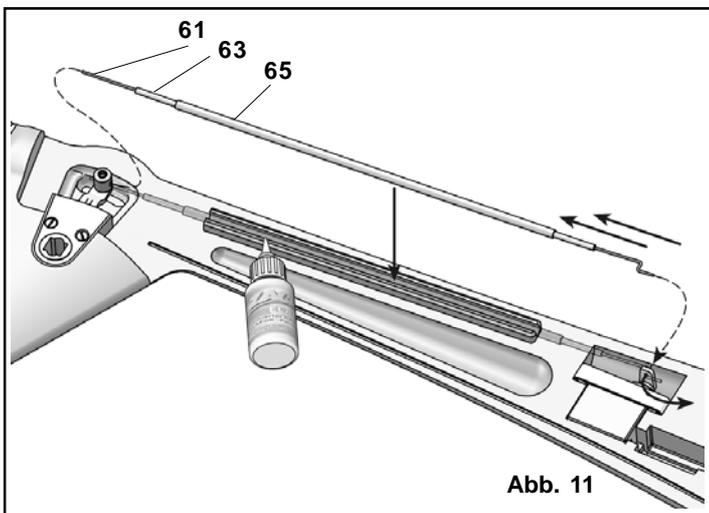
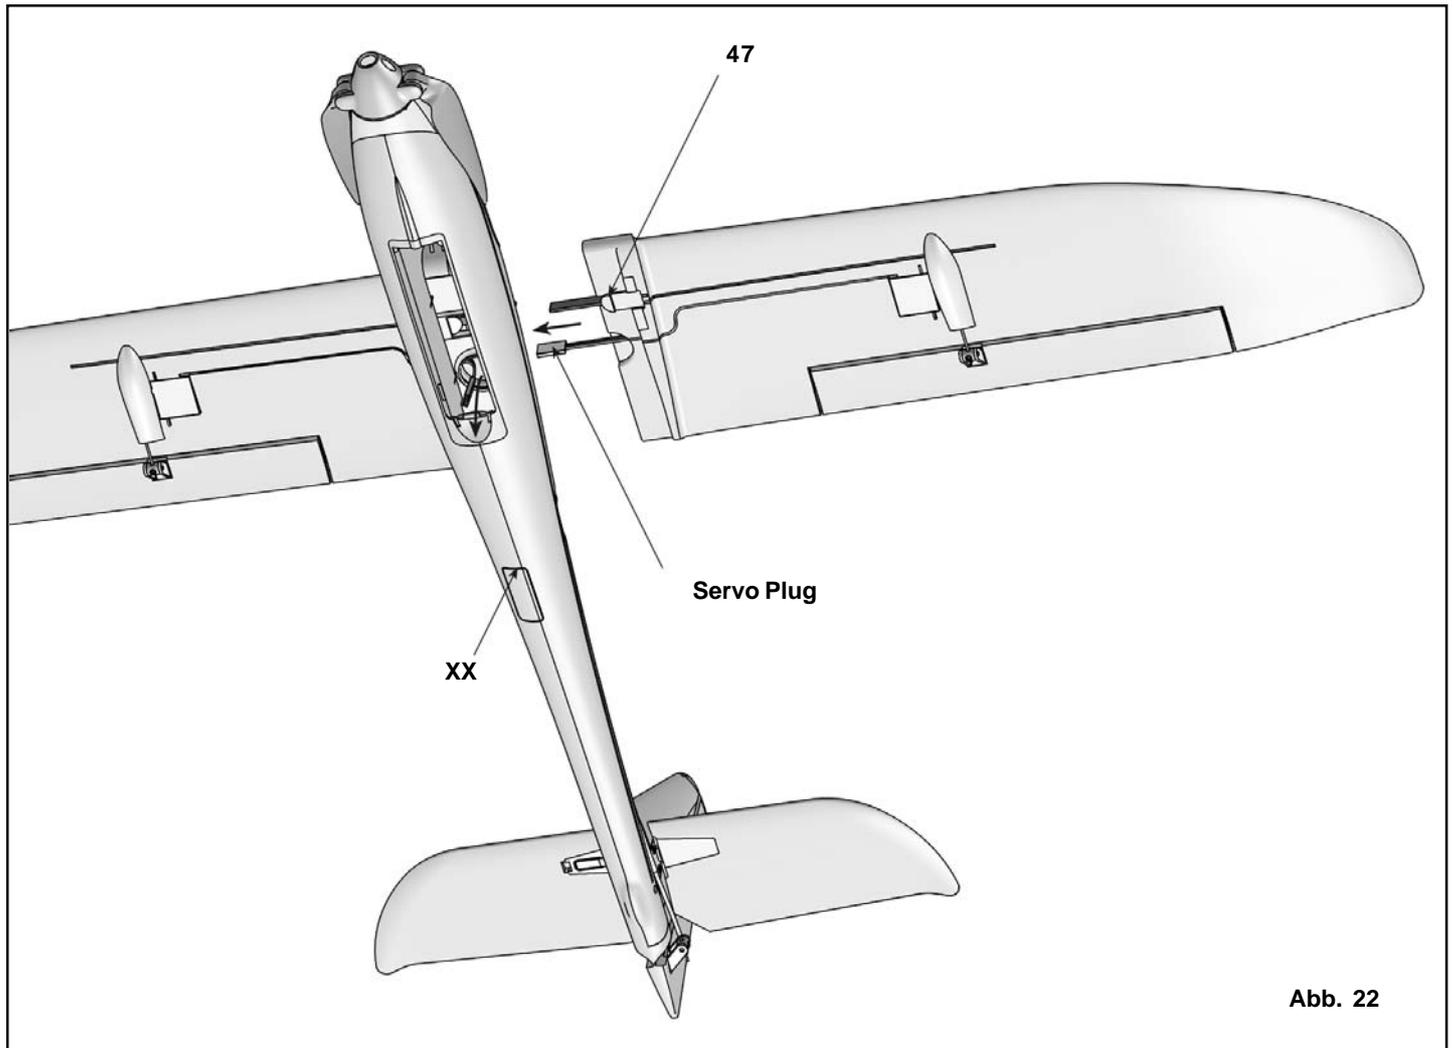

Abb. 11
Abb. 22
3.3 Installing the elevator pushrod, Fig. 11 (see also Fig. 22)
6. Joining the wings and fuselage, Fig. 22
Normally the servo will never need to be replaced, but if it should develop a fault, cut along the narrow channel as shown in **Fig. 22**, and remove the "hatch" thus formed. Replace the servo, then stick the hatch back in place with a few drops of cyano. If you use a really sharp knife and work neatly, the repair will be virtually invisible.